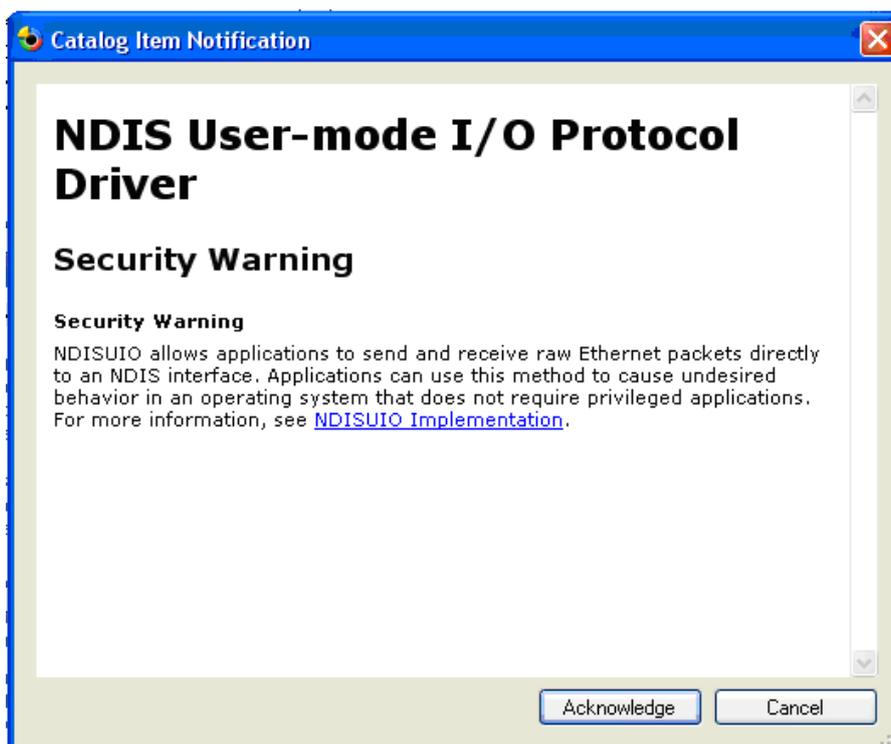

Figure 6.10
10. Click Acknowledge in the interface as shown in Figure 6.10 to finish the initial customization of WinCE 6.0 OS.